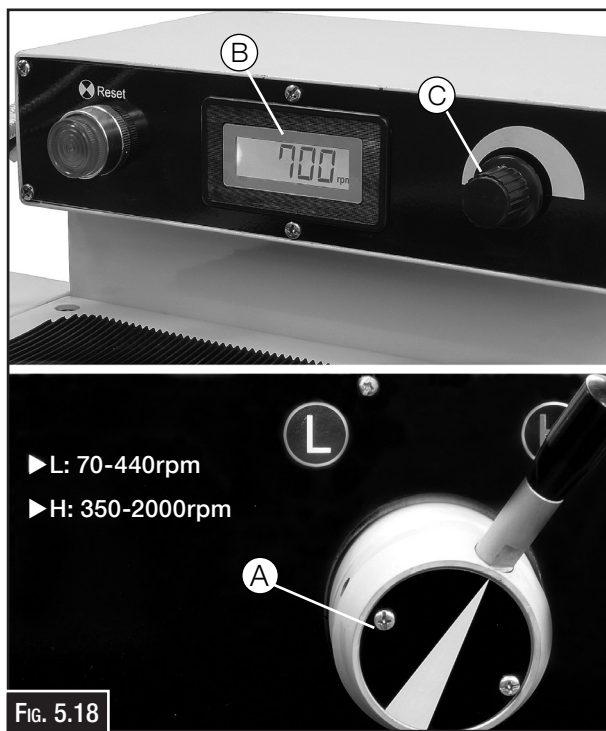

FIG. 5.18
1. Set the High/Low lever. (A in Fig. 5.18)